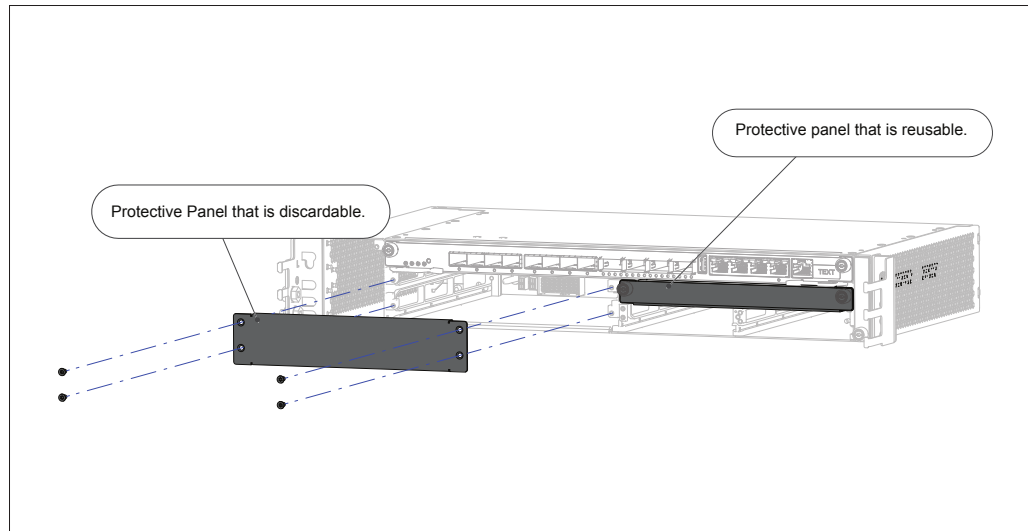

Figure 6 Remove Protective Card for Chassis Empty with Line Card Slots during Transport
- Figure 6 shows how to remove the protective panels that are installed on the chassis which is pre-installed with RP card but is empty with line card slots during transport.